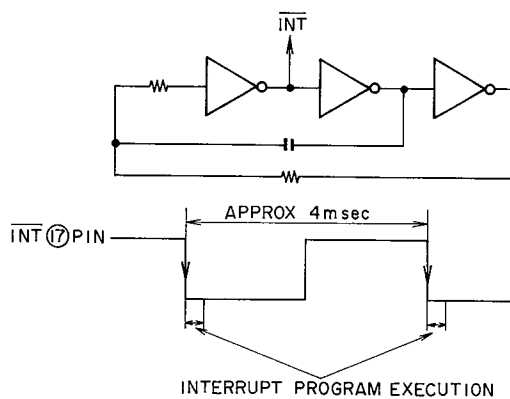

Fig. 11 INT Signal Oscillator and Waveform
The waveform shown in Fig. 11 is applied to pin (17) of terminal INT from the oscillator circuit of IC6. As terminal INT falls from "H" to "L", the CPU interrupts execution of the main program and changes to the interrupt processing routine. Since the waveform applied to INT rises and falls in intervals of approximate 4 msec (250 times per second), the interrupt processing routine runs regularly in the same intervals.